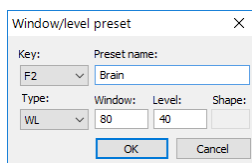

Figure 156 – Window/level preset dialog – defining a new preset
3. The **Window/level preset** dialog is then displayed. The initial values for the window, level shape and palette graduation type (even if not displayed) are the same as the current window/level settings in the current view (see Figure 156).